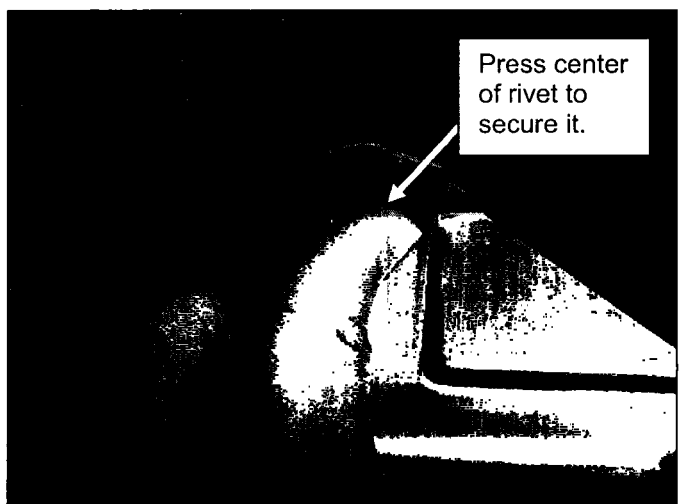

Figure 10
- Then press on the center of the rivet to secure it (see Figure 10).